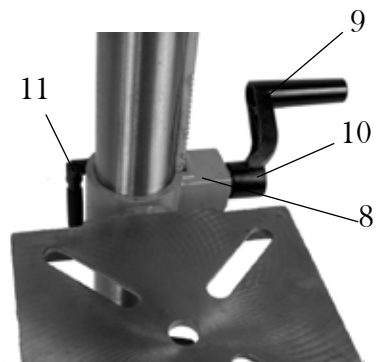

Fig. 5
7. Insert the table support crank handle (9) into the worm gear shaft on the side of the table support (8). Make sure the set screw (10) is aligned on the flat of the shaft and as close to the table support as possible. Tighten the set screw (Fig. 5).
8. Position the table in the same direction as the base, and tighten the column lock handle (11).